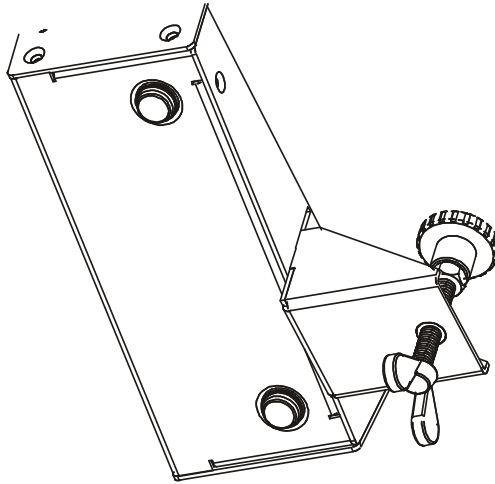

Figure 5: Inserting the Mounting Brackets through the Bracket Slits
3. Insert the two mounting brackets through the bracket slits on both sides of the **VP-727T** unit (see Figure 5).